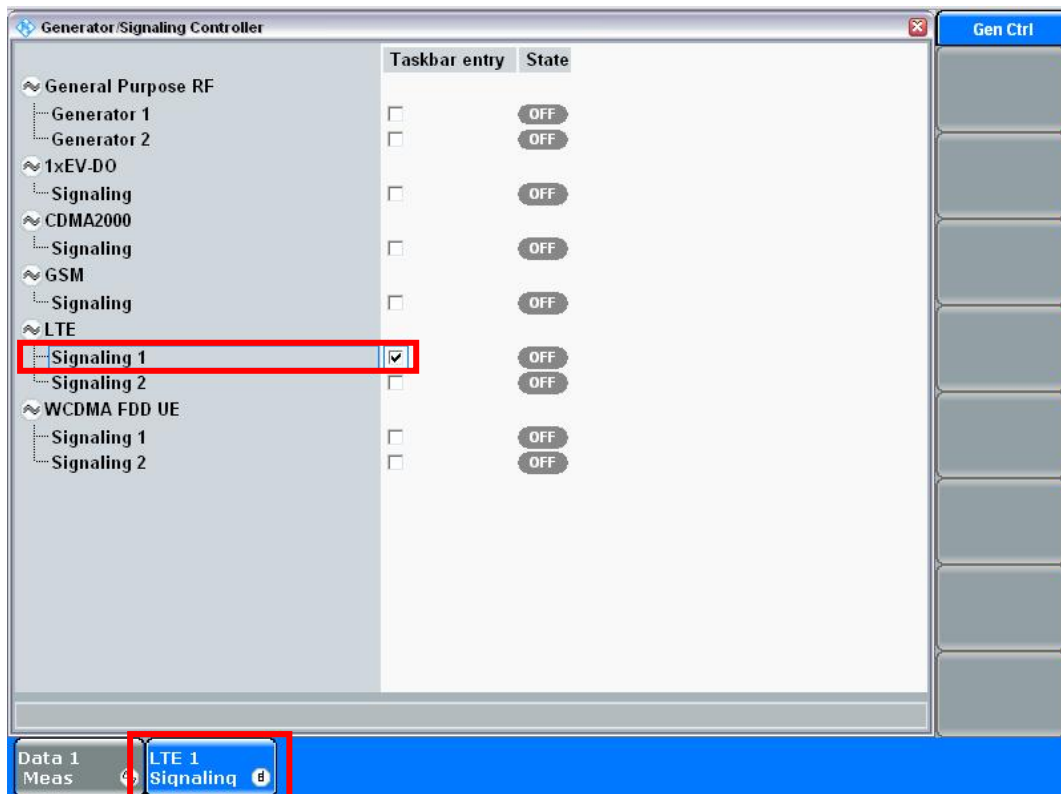

Figure 13: Selecting Signaling Task
2. Press the button **SIGNAL GEN** (red box in Figure 10) and select **LTE Signaling 1** (see Figure 13).
3. Select **LTE Signaling** (Figure 13) and continue with section 2.4.2.